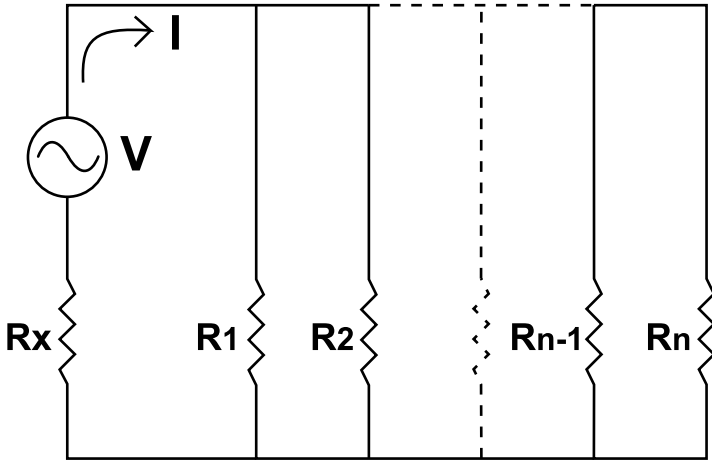
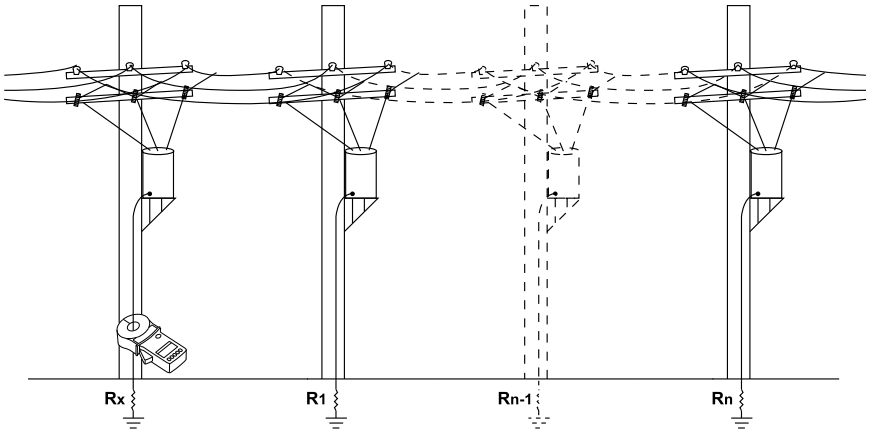

Figure 20
Figure 21
Typically grounded distribution system may be simulated by the basic circuit shown in Fig. 20 or an equivalent circuit, shown in Fig. 21. If voltage (V) is applied to any measured grounding electrode  $R_x$  through a special transformer, current (I) flows through the circuit, thereby establishing the following equation: